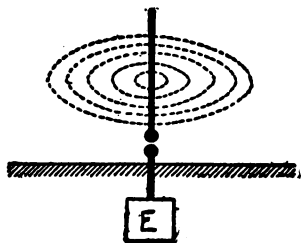

FIG. 53.—ELECTRIC WAVES AROUND AERIAL.
**How Wireless Waves Travel.**—All around the aerial wire, everywhere as far as the eye can reach and beyond the space is filled with a substance of which electricity is made and which is perfectly still, just as the pool of water is still before the stones are thrown in, and, too, just as little waves are sent out by the stones striking the water, so the currents running up and down the aerial and ground wires strike this great pool called the *ether* and sets it into motion, and ripples or waves are sent out all around the aerial wire, somewhat after the manner shown in Fig. 53, but instead of being simple rings of elec-